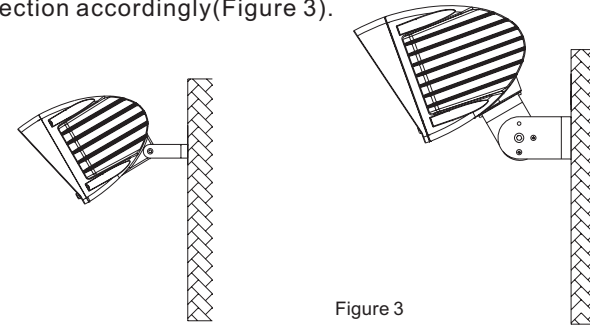

Figure 3
2. After installation, connect the wiring before necessary connector protection. Adjust the lighting direction accordingly (Figure 3).